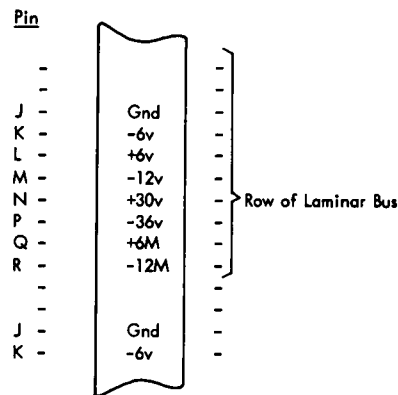

Figure 75. Laminar Bus Pin Identification
Automated add and delete lists for voltage jumpers give a pin identification for the laminar bus (LB) instead of specifying the voltage. See Figure 75.